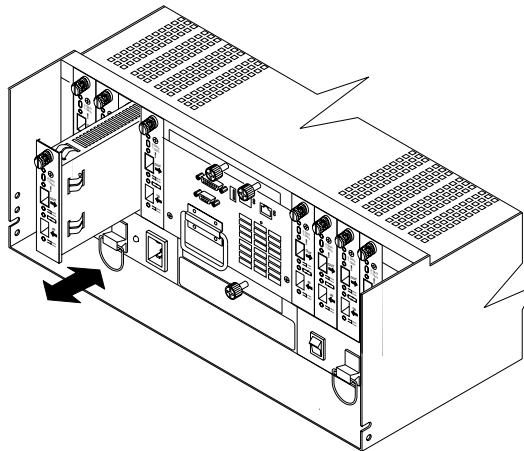

Figure 50. Removing and installing a mini hub
The mini hubs are located on the back of the FAStT700 Storage Server (see Figure 50 on page 53). A mini hub is a single, removable unit that provides the Fibre Channel interface between a FAStT700 Storage Server and hosts or drives. The back of the FAStT700 Storage Server can accommodate eight mini hubs: up to four host-side and up to four drive-side mini hubs. Each mini hub has two ports. An SFP module is installed in a mini-hub port; then, a fiber-optic interface cable is connected into the SFP module. For more information, see “Fibre Channel connections” on page 2 and “Small Form-Factor Pluggable (SFP) Modules” on page 48.
4. Loosen the captive screw on the mini hub; then, grasp the screw and remove the mini hub from the chassis, as shown in Figure 50.